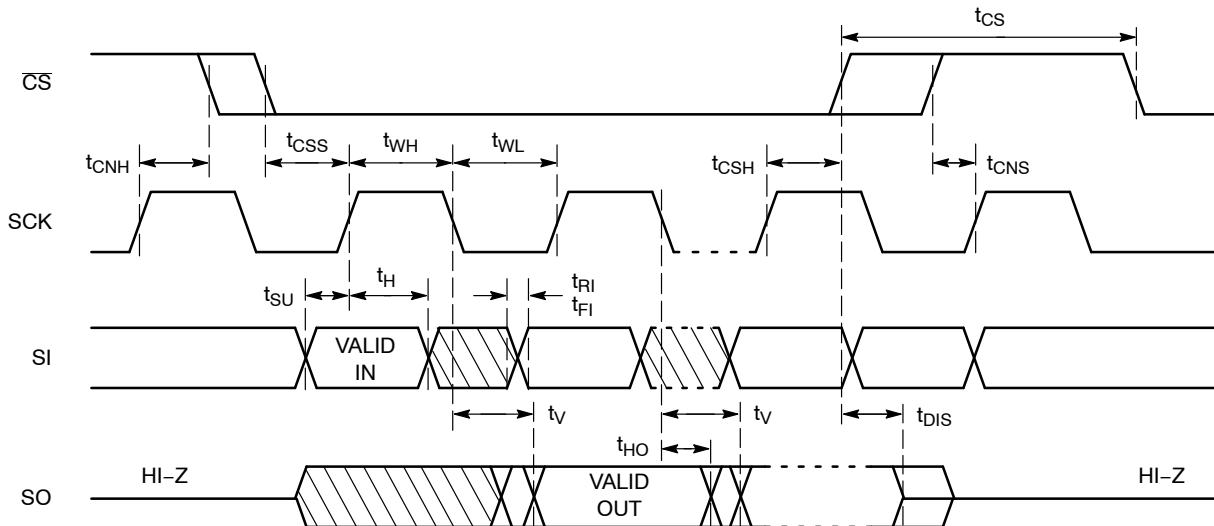

Figure 2. Synchronous Data Timing
7. t_{WC} is the time from the rising edge of CS after a valid write sequence to the end of the internal write cycle.8. **All Chip Select (CS) timing parameters are defined relative to the positive clock edge (Figure 2). t_{CSH} timing specification is valid for die revision E and higher. The die revision E is identified by letter "E" or a dedicated marking code on top of the package. For previous product revision (Rev. D) the t_{CSH} is defined relative to the negative clock edge.**
After a high to low transition on the \overline{CS} input pin, the CAT25640 will accept any one of the six instruction op-codes listed in Table 9 and will ignore all other possible 8-bit combinations. The communication protocol follows the timing from Figure 2.